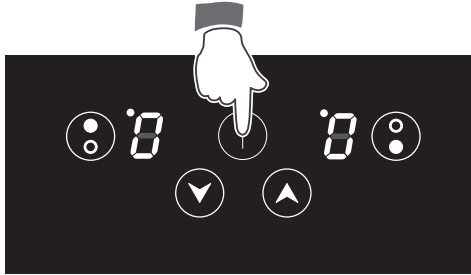

Fig. 2.2
Touch the key ① until the touch control system is lit (fig. 2.2). The displays of the cooking zones read “0”.